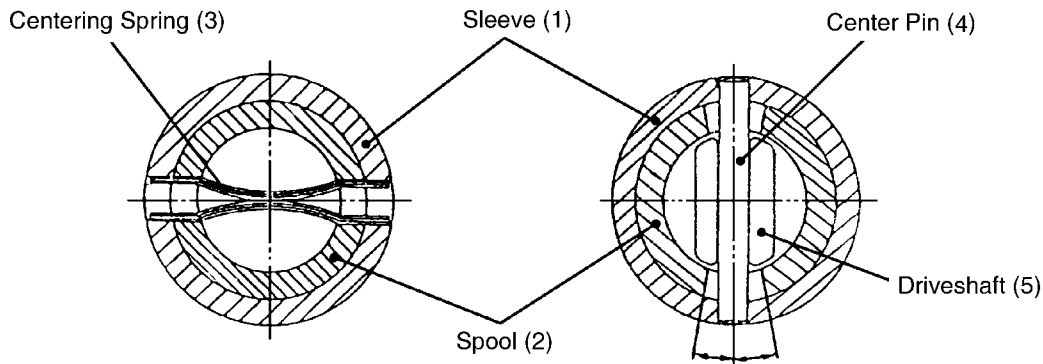

Figure 4
With the steering wheel in the neutral position (wheels turned neither right nor left), the spool (2, Figure 4) and sleeve (1) are stationary at the position where the center pin (4) becomes centered in the spool space by the centering springs (3). Oil flow through the load sensing line (LS), port L, port R, and port T are bypassed to the tank line and the oil supply (P) is blocked by the directional spool in the steering unit. Even if an external force is applied to the steering cylinder, the steering unit is protected because the oil path is blocked by the directional spool.